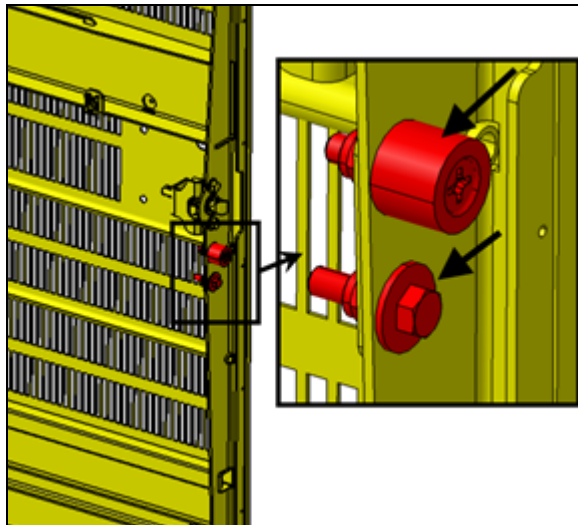

FIGURE 114
10. Check that the two items identified with arrows are snug but not tight (FIGURE 114).